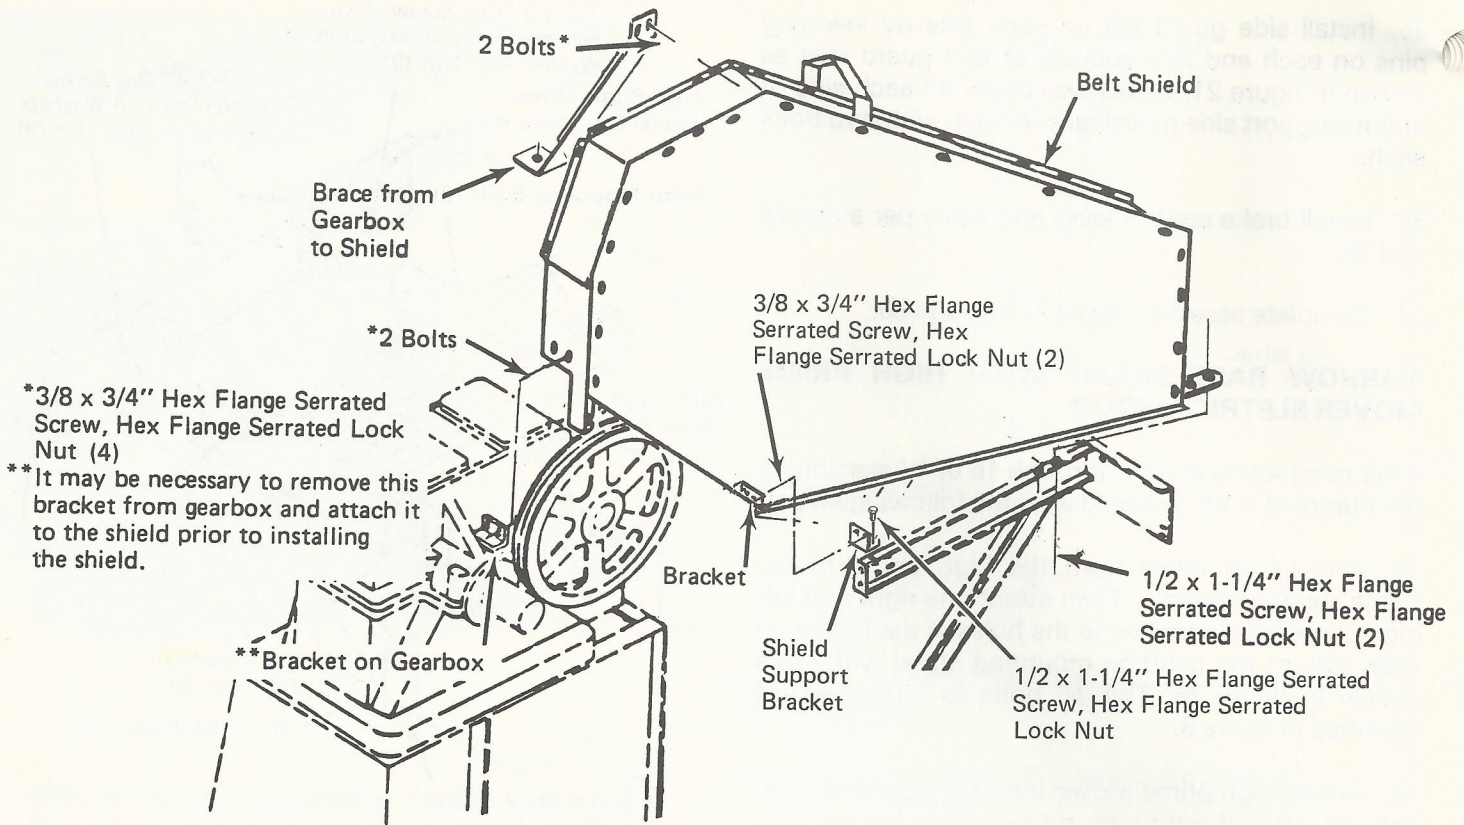

Figure 27
41. Attach shield support bracket to top of left high prime mover frame with bolt shown in figure 27.
42. Remove bracket from between bottom lower edges of belt shield shown in figure 27. Then hoist belt shield into position over belts and attach to high prime mover frame and gearbox with bolts called out in figure 27. Install bracket and attach to support bracket on top of left high prime mover frame.